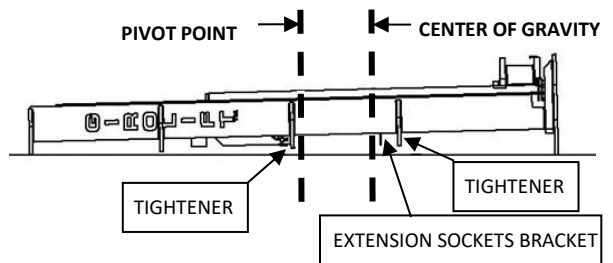

FIGURE 8 : POINT OF PIVOT AND CENTER OF GRAVITY OF A GROUND COLUMN
3.1 USING A SAFE AND ADEQUATE HANDLING EQUIPMENT AND A LIFTING STRAP, MOVE THE COLUMN AT THE NEAREST INSTALLATION SITE. PLACE THE LIFTING STRAP AT THE CENTER OF GRAVITY (EQUAL WEIGHT DISTRIBUTION) OF THE COLUMN. SEE **FIGURE 8.**
- 3.3 MOVE THE LIFTING STRAP TO PIVOT POINT UNDER THE TIGHTENED. SEE **FIGURE 8.**